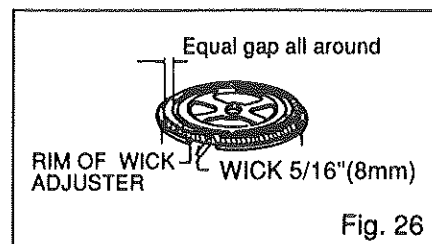

Fig. 26
- (1) Agitate and rinse inner part of the tank with a little of remaining kerosene, then pour out entirely. Water rarely mixes with kerosene, and it would cause rust inside the tank. Remove kerosene and dry the inside of tank well.
- (2) With no kerosene left in the kerosene heater, ignite and keep the wick burning. When the red heat of the outer cylinder becomes faint, keep the wick fully turned up until it burns out (about an hour).
- (3) After removing the burner and batteries, remove the wick adjuster from the fuel reservoir, dry the inside of the fuel reservoir thoroughly. Remove the carbon accumulated on the wick adjuster and/or the soot adhering to the burner with a brush or screw driver.
- (4) After cleaning, reassemble the heater. Remember to reassemble the wick adjuster so as to keep the gap between the wick adjuster and wick guide cylinder equal all the way around. (Refer to page 11 "Wick Replacement" and Fig. 26)